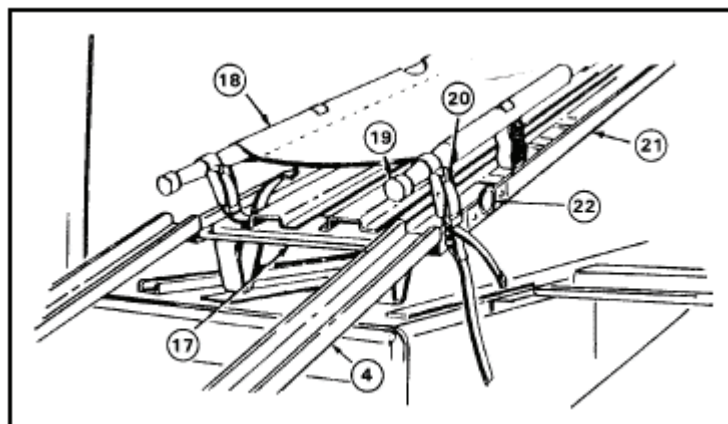

Figure 3-53. Unload litters from upper litter racks.
- (1) Unhook litter rack tension strap (23) from lower litter rack footman loop (30).
- (2) Unhook two upper litter rack suspension straps hooks (27) from loops (22) on upper litter rack (21) and reattach strap hooks (27) to eyes (26).
- (3) Release upper litter rack latch (31) and disengage rack striker (32) from latch (31).
- (4) Lower upper litter rack (21) onto the lower litter rack (9), forming a backrest.
- i. Cover backrest to upper litter rack. Refer to Figure 3-53.
- (1) Raise upper litter rack (21) and engage rack striker (32) into upper litter rack latch (31). Ensure striker (32) is locked in latch (21).
- (2) Unhook two upper litter rack suspension strap hooks (27) from eyes (26) and hook to loops (22) on upper litter rack (21).
- (3) Hook upper litter rack tension strap (23) to footman loop (30) on lower litter rack (9).
- (4) Adjust straps (23 and 27) for proper tension.